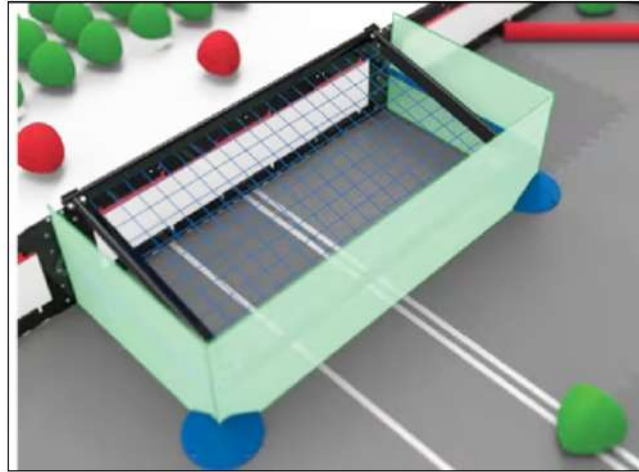

Figure 4: Alliance Goal with Planes Showing Scored Barrier
- For a Triball to be considered scored, **two of the four corners must break the plane of the goal**, as seen in Figure 4 above.